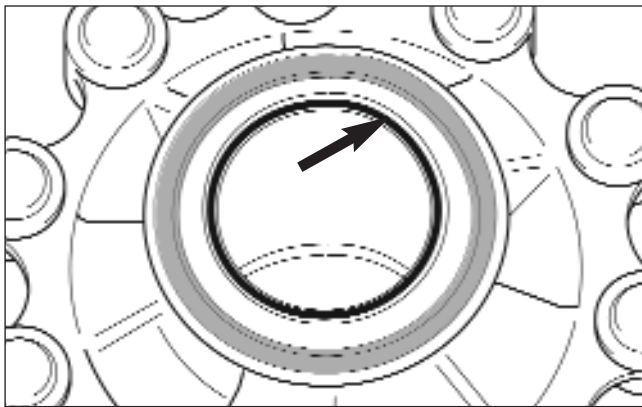

Fig. 4.25
**CAUTION:** Later hub assemblies, from Autumn 2009, incorporate an O ring positioned in a recess on the inner bearing (Fig 4.25).
Where applicable, fit the new O ring into position (Fig 4.25).